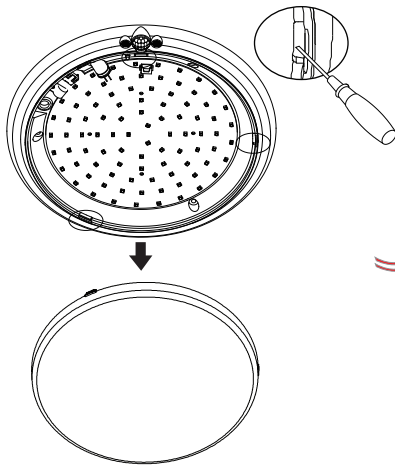

Fig.2
- Step2 Before installing the lamp, use tools to pry open three bayonets in turn and remove the lampshade. (as Fig.2)